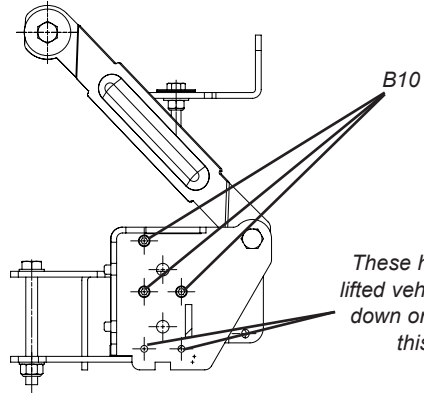

Figure 4
1. Install part number 84154 hex socket $\frac{1}{4}$ -20 screws three per side in the ends of the front plow mount, per the exploded view (Figure 4).